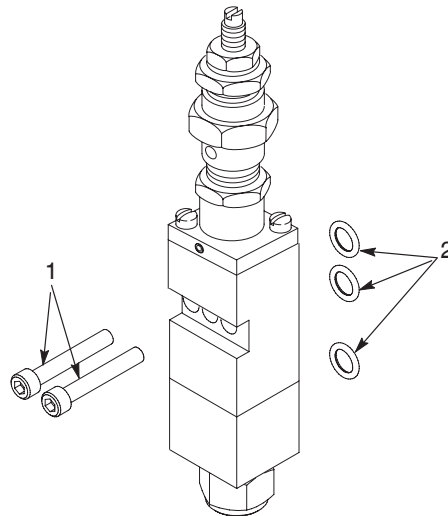

Figure 9-6 Replacing a module
6. See Figure 9-6. Remove the module mounting screws (1) and then remove the module. Remove the module O-rings (2) for inspection.